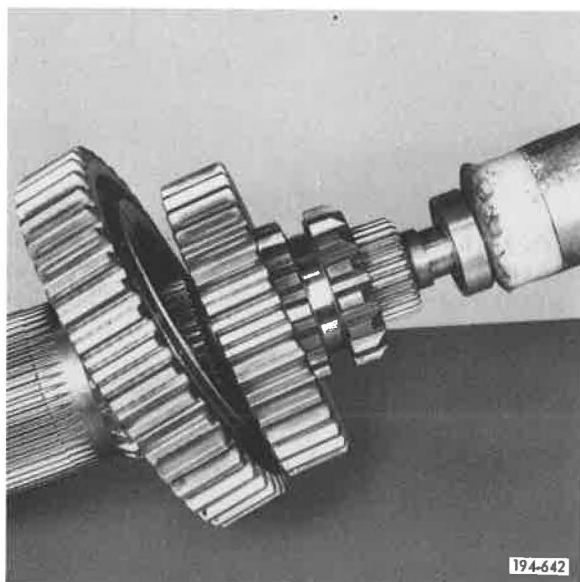

Figure 353. Installing Bearing
12. Install spigot bearing onto front of mainshaft, using a soft mallet and a suitable driving sleeve. Apply force to the inner race only. See Figure 353.